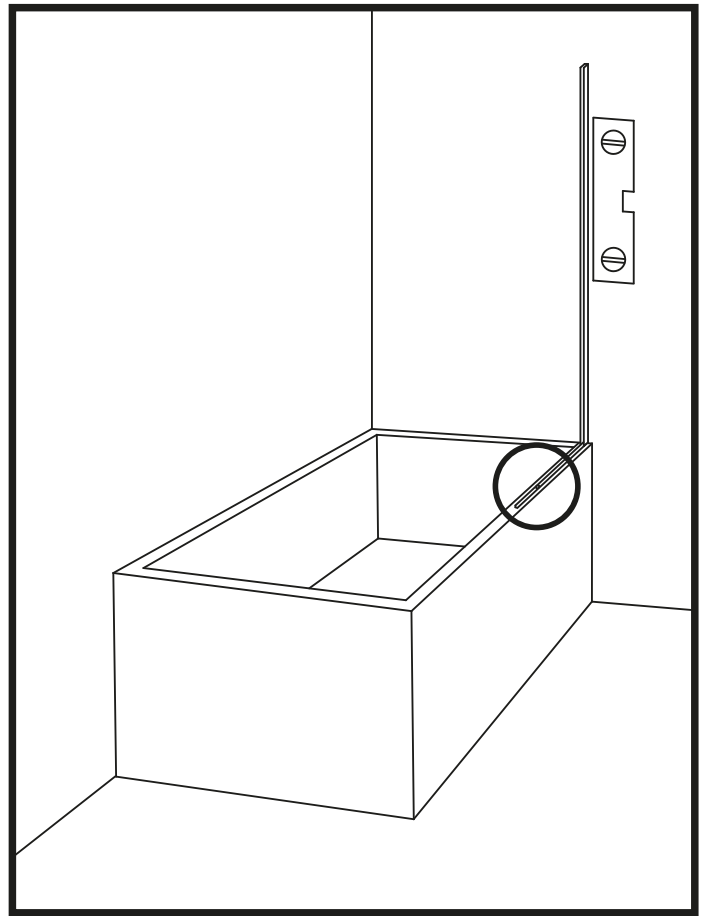

Figure 4
7. Place the shorter U-channel on the edge of the bathtub, with the end against the U-channel on the wall and parallel to the opposite wall. (Fig 4)